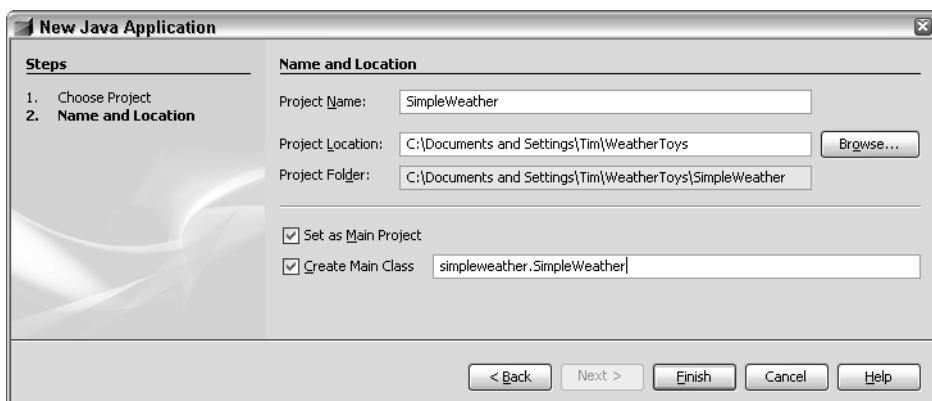

FIGURE 4-11: New Java Application settings.
5. Click Next. You'll see the New Java Application window, as shown in Figure 4-11.